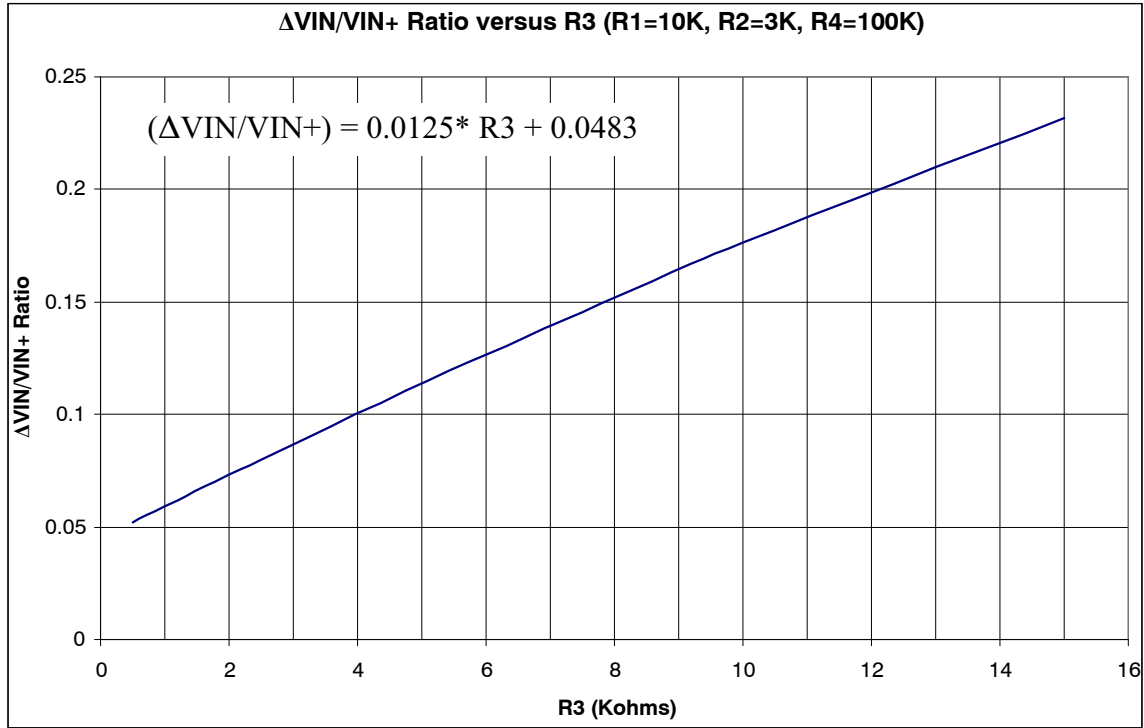
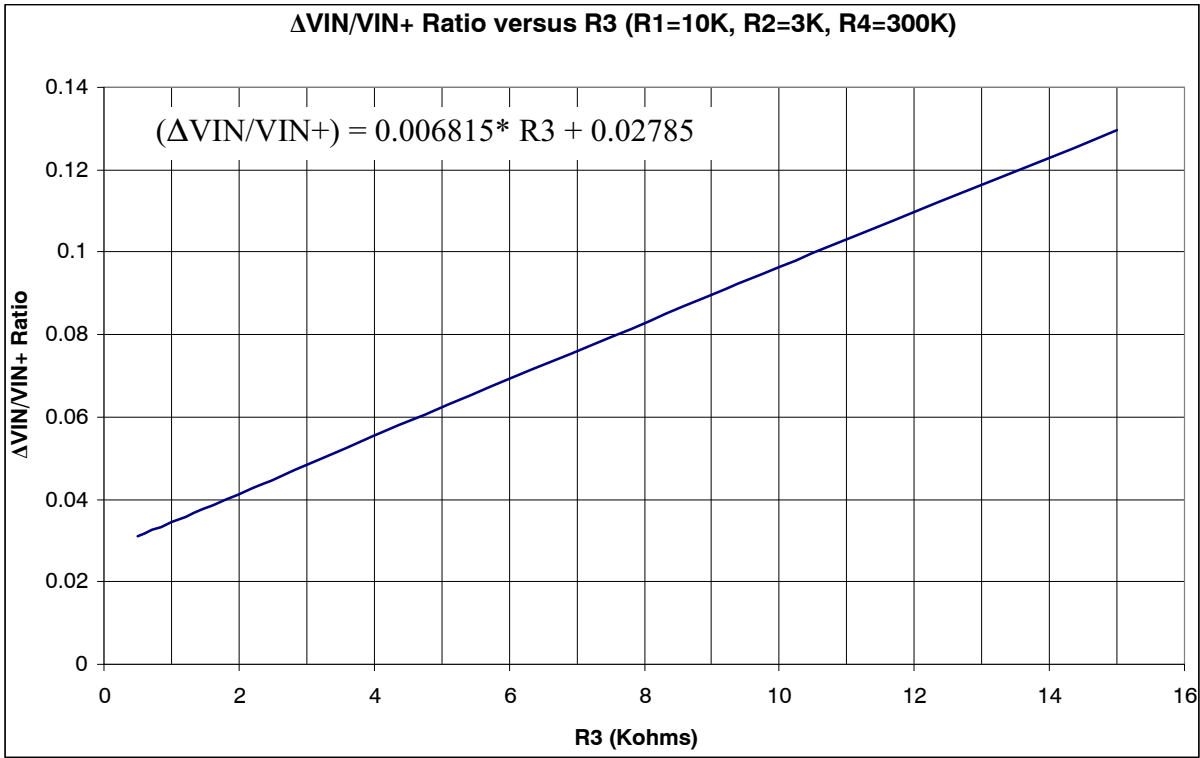
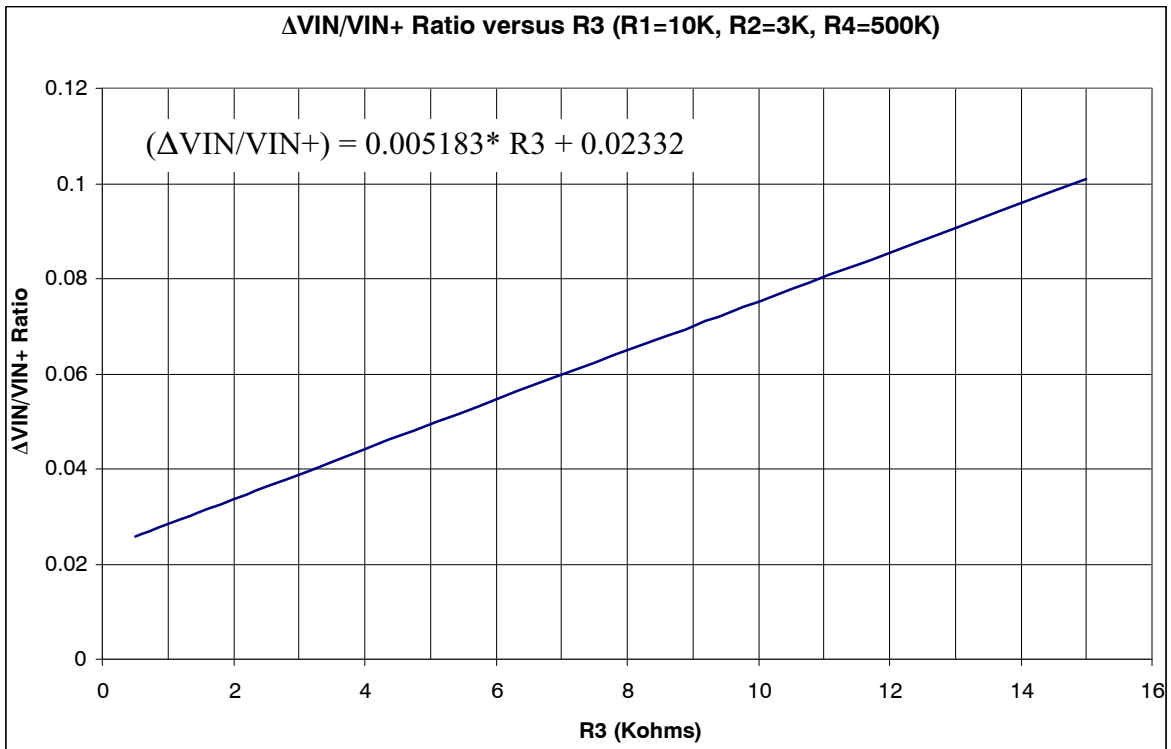

Figure 4. Chart for $\Delta V_{IN}/V_{IN+}$ Ratio versus R3
Figure 10. Chart for $\Delta V_{IN}/V_{IN+}$ Ratio versus R3 (R4 = 300k)
Figure 12. Chart for $\Delta V_{IN}/V_{IN+}$ Ratio versus R3 (R4 = 500k)
3. From Figure 4 chart with make use of the equation provided, evaluate R_3 based on the calculated $\Delta V_{IN}/V_{IN+}$. If R_3 is found to be negative, try to use $R_4 = 300k$ (use Figure 10) or $R_4 = 500k$ (use Figure 12) and repeat R_3 evaluation.
Step 3: From the Figure 4 chart with make use of equation, we have